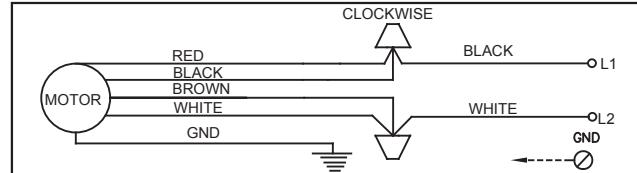

Figure 6
- If a remote speed control or reverse switch is to be used refer to the Instruction Manual included with that controller for proper installation and wiring. Refer to Figures 6 and 7 for proper installation and wiring if no remote speed control or reverse switch is to be used.